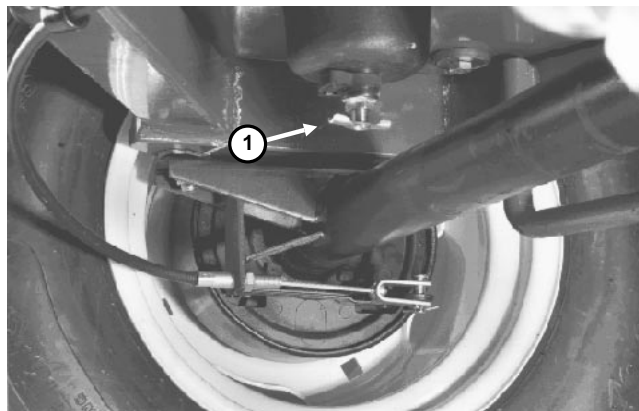

Figure 14
2. Open drain fitting on bottom of fuel tank and drain fuel into a suitable container (Fig. 14).